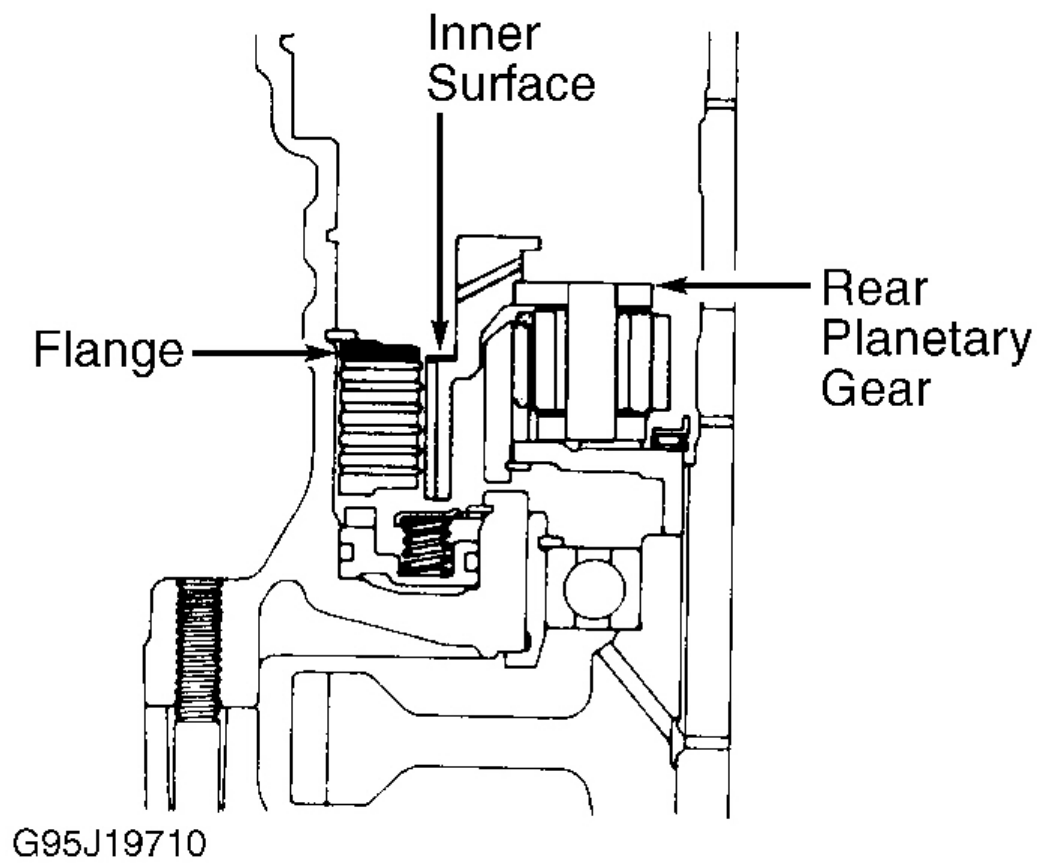

Fig. 57: Checking Rear Planetary Installation
19. Align spline of planetary gear with tabs of 1st and reverse brake discs. Install rear planetary gear into 1st and reverse brake. Ensure inner surface of rear planetary gear is below upper surface of flange. See **Fig. 57**. Install No. 2 one-way clutch with shiny side upward. Rotate planetary gear clockwise while installing No. 2 one-way clutch.